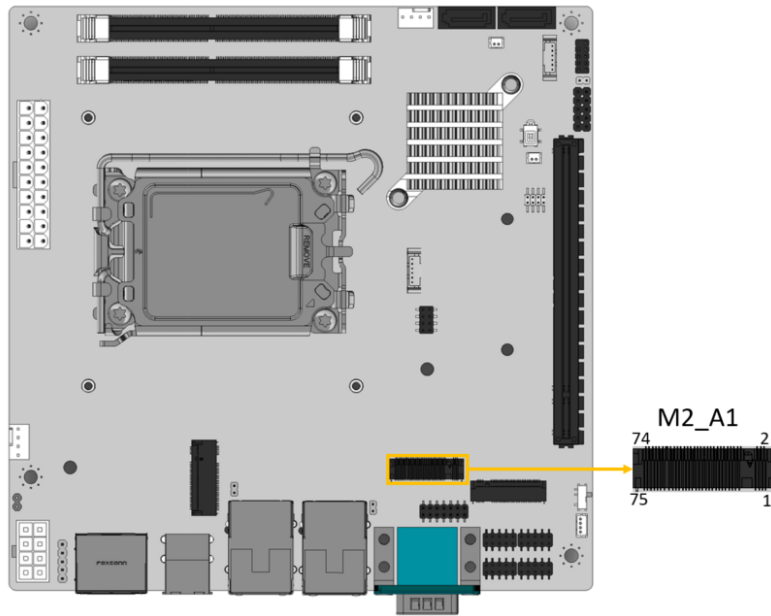

Figure 3-14: M.2 A-key Slot Location
- CN Location:** See Figure 3-14